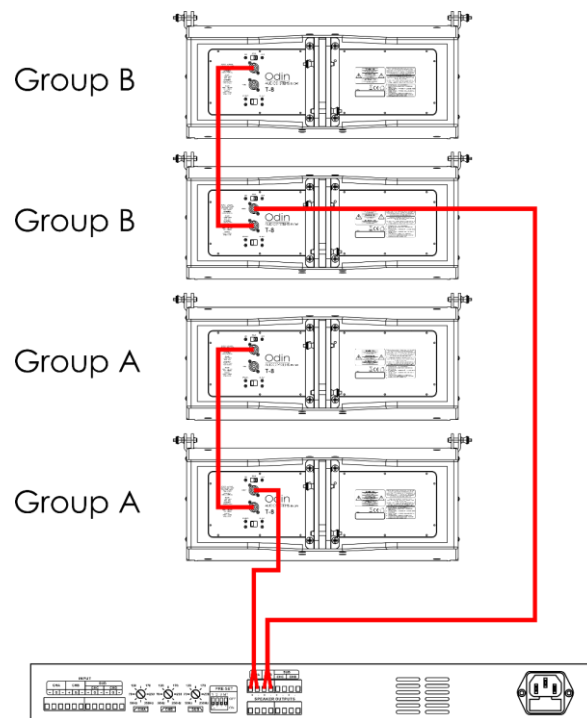

Fig. 16
- 01) Connect the **speaker connector IN (10)** of the first device to the output of the amplifier.
- 02) Connect the **speaker connector THRU (09)** of the first device to the **speaker connector IN (10)** of the second device.
- 03) Repeat step 2 to connect multiple devices as shown in Fig. 16.